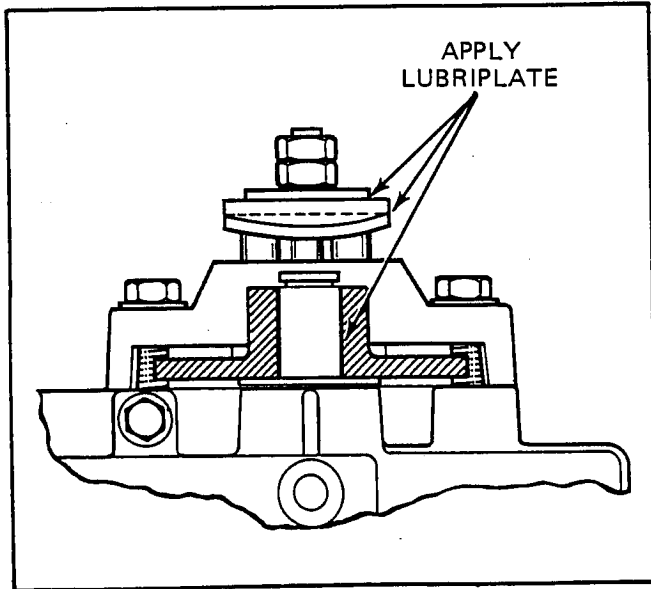

Figure 2-33A
8. Apply a light film of lubriplate to the inside of lever portion which contacts pins (Figure 2-33A); also to outside of lever which contacts flat washer, and between shaft O.D. and bore of brake disc. Brake pads and brake disc must be free of grease and oil.